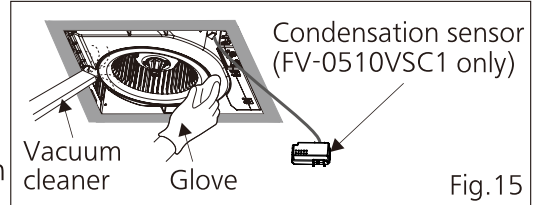

Fig. 15
3. Remove dust and dirt from fan body using a vacuum cleaner. (Fig.15)
4. Using a cloth dampened with kitchen detergent remove any dirt from fan body. Wipe dry with clean cloth. (Fig.15)